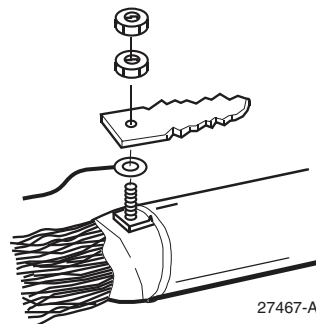

Figure A-5. Bonding Wire Installation
7. Install both nuts on connector as shown in Figure A-5 and tighten.